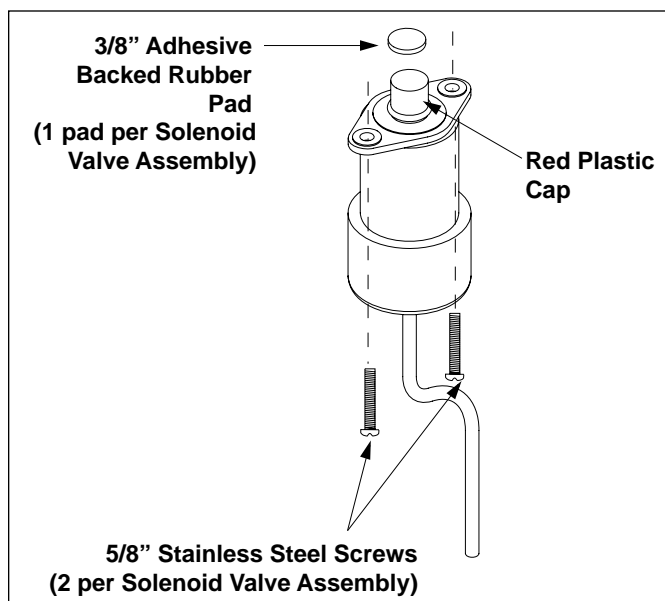

Figure 1. Solenoid Valve Assembly
- two (2) 24 VAC Solenoid Valves (model number LPC4-S) with 50 ft cable (see Figure 1)
- four (4) #10 x 5/8" stainless steel screws
- two (2) adhesive backed 3/8" rubber pads